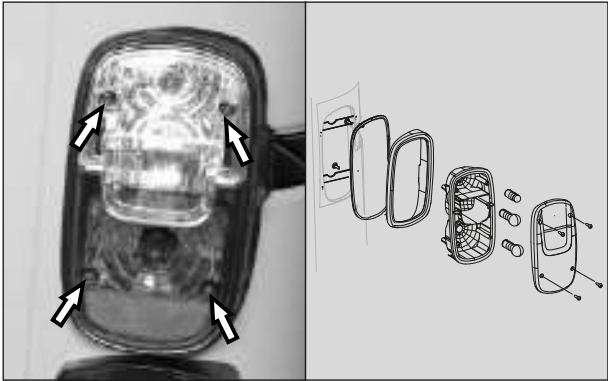

Fig. 6.57
- Loosen and remove 4 nos. Pan head screw along with 4 nos. Plain washer and 4 nos. Rubber washer from rear combination lamp. (Fig. 6.57)